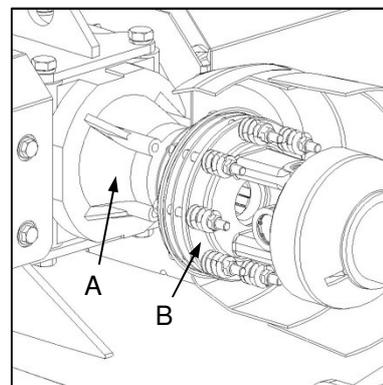

Fig. 5
- ✔ Discoloration or blistering of painted surfaces of the friction clutch housing (Fig. 5-B).
- ✔ The friction clutch housing feels significantly hotter than the surface of the gearbox casing (Fig. 5-A).
- ✔ Verkleuring of blaasvorming van geverfde oppervlakke van die wrywingkoppelaaromhulsel (Fig. 5-B).
- ✔ Die wrywingkoppelaaromhulsel voel beduidend warmer as die ratkasomhulsel (Fig. 5-A).